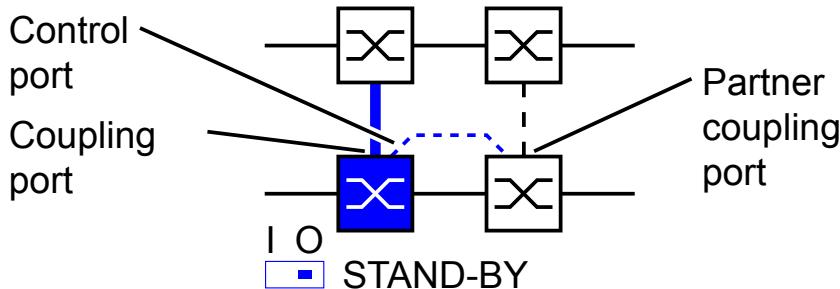

Figure 21: Two-Switch coupling with control line
- Select two-Switch main coupling with control line (see fig. 21).